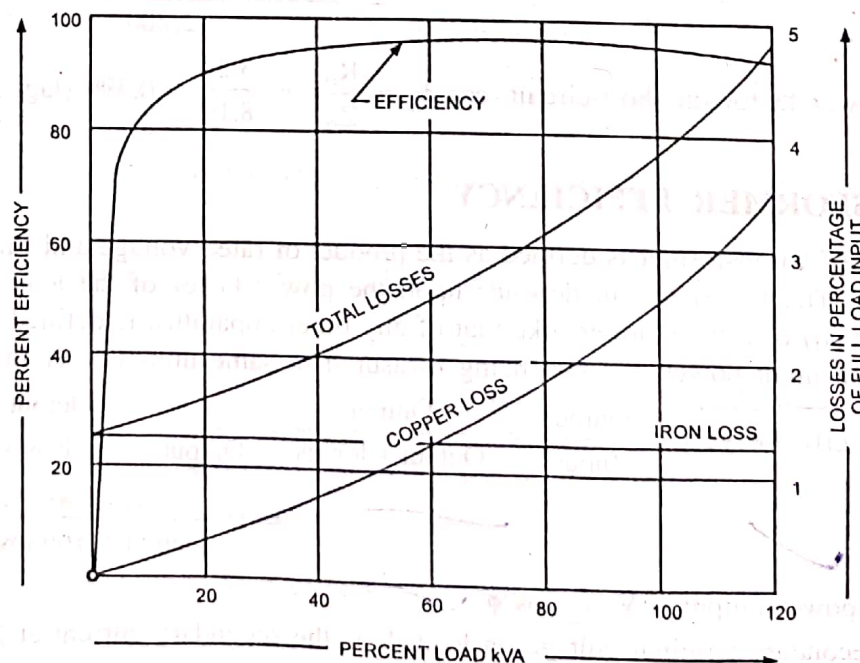

Fig. 10.25
10.19.2. Efficiency Versus Load. It has been pointed out that with constant voltage the mutual flux of the transformer is practically constant from no-load to full load (maximum variation is from 1 to 3 %). The core or iron loss is, therefore, considered constant regardless of load. Copper loss varies as the square of the load current or kVA output, as mentioned in Art 10.16. The variations in copper loss with the increase in load current (or kVA) is shown in Fig. 10.25. The efficiency vs load curve as deduced from
these is also shown in the Fig. From the efficiency-load curve shown in Fig. 10.25 it is obvious that the efficiency is very high even at light load, as low as 10 % of rated load. The efficiency is practically constant from about 20% rated load to about 20% overload. At light loads the efficiency is poor because of constant iron loss whereas at high loads the efficiency falls off due to increase in copper loss as the square of load. From Fig. 10.25 it is also obvious that the transformer efficiency is maximum at the point of intersection of copper loss and iron loss curves i.e. when copper loss equals iron loss.